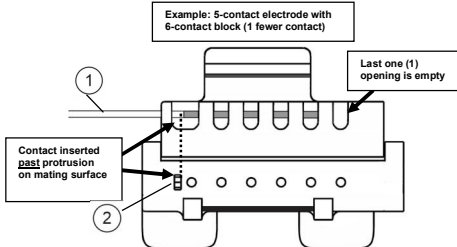
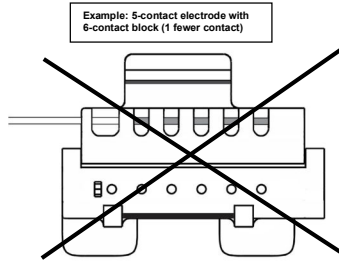

Figure 3. Correct positioning of electrode tail with fewer contacts
Figure 4. Incorrect positioning of electrode with fewer contacts.
- 3.2. For electrodes with fewer contacts, insert the electrode until the last contact being inserted aligns with the far side of the first opening, and is past the protrusion on the mating surface. See Figure 3.
- 3.3. Do not fully insert electrode with fewer contacts (shown in figure 4). The windows on the far side (away from where the electrode is inserted) should be left empty for electrodes with fewer contacts, as shown in figure 3.